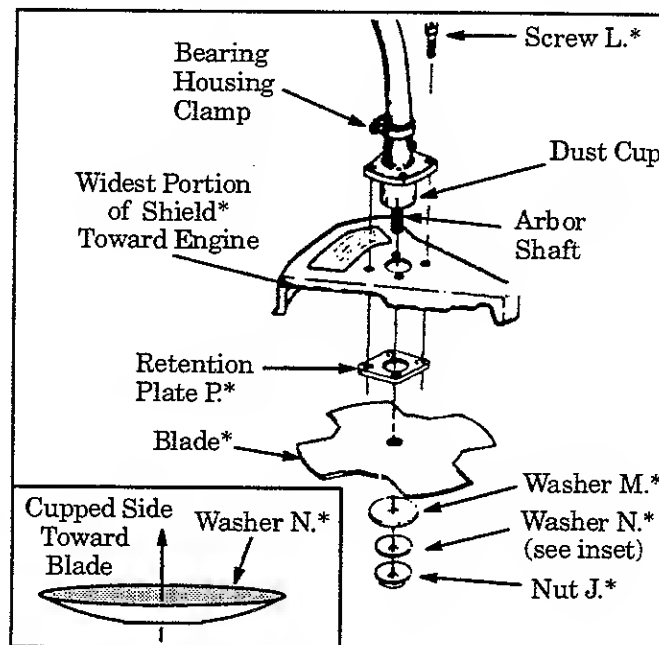

Figure 6
Failure to install the shield in the position shown in Figures 6 and 9 can result in serious injury to the operator. The length of the shield must be aligned with the length of the tube.
2. Hold retention plate "P" in position and place the metal shield under the bearing housing. Align screw holes. Figure 6.
3. Insert the four metal shield screws "L." (one at a time) through the bearing housing, shield, and retention plate "P". Figure 6.
6. Install blade over arbor shaft, making sure the hole in the center of blade is fitted around the raised center step on the dust cup. Figure 6.
7. Install the large flat washer "M.", cupped washer "N.", and hex flange nut "J." as shown in Figure 6. Be sure cupped washer "N." is installed as shown in Figure 6 (inset).
8. Align the hole in the dust cup with the hole in the side of the bearing housing by turning the dust cup. Figure 6.